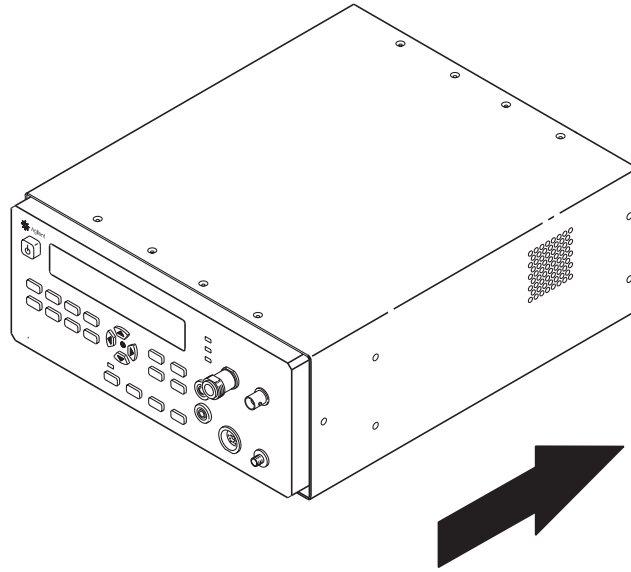

Figure 3-4. Removing the Shroud
- 6 Slide the shroud off the chassis to the rear (see Figure 3-4), and place it aside (if the shroud does not slide easily off the chassis, press on the rear panel with one hand while pulling the shroud with the other hand).